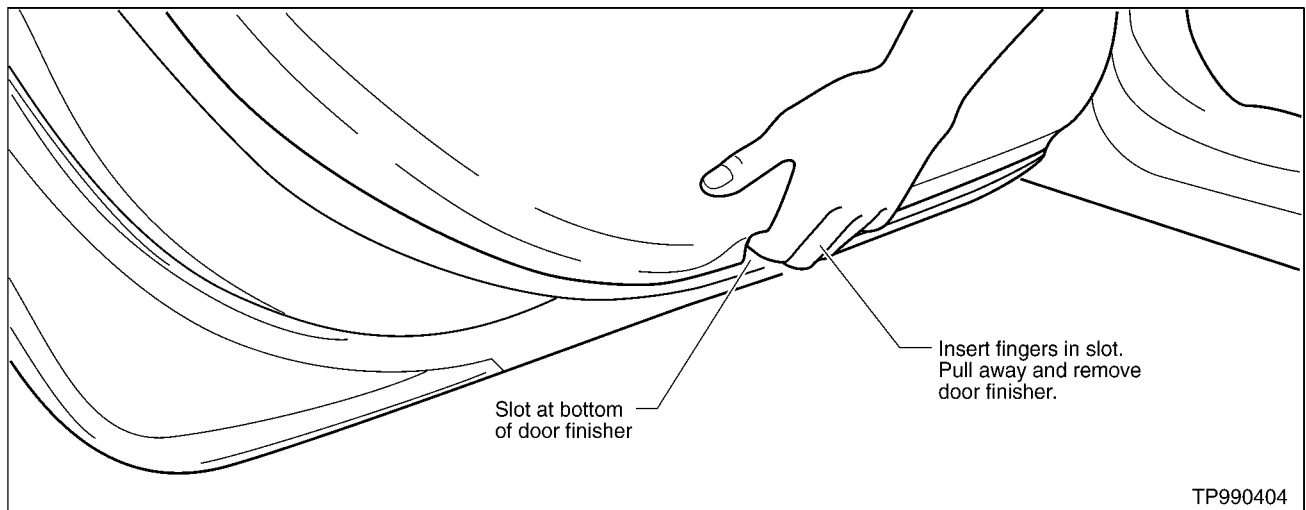

Figure 15
- B. Insert your fingers in the slot located at the bottom of the door finisher (see Figure 15).